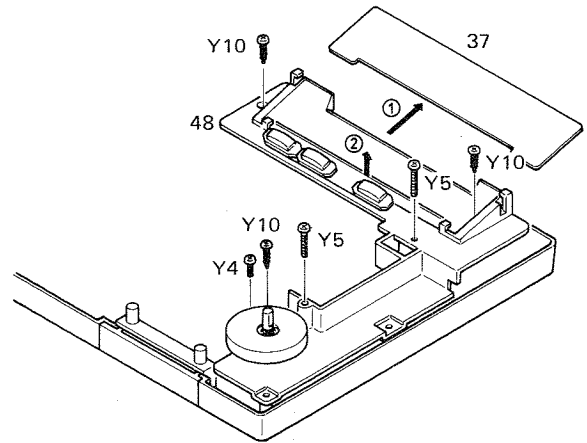

Fig. 4
2. Dismount the dial scale (37) from the bracket mounting (48) and remove the six screws (Y4 = 1, Y5 = 2, Y10 = 3) securing the latter. This done, the meter PCB (128) can be pulled off the socket on the connector PCB (126) together with the bracket mounting (48). (cf. Fig. 4)